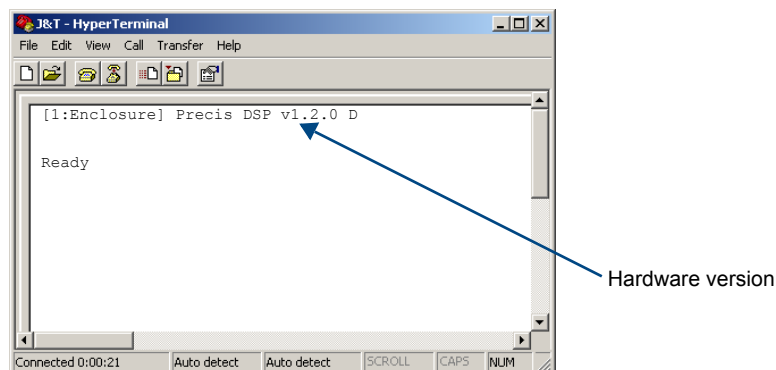

FIG. 8 Power-up splash screen in HyperTerminal
A short splash screen appears followed by “Ready” (see FIG. 8 below).
When power is applied to the enclosure, HyperTerminal displays a short splash screen followed by “Ready”. An example of a short splash screen is illustrated in FIG. 8 (your system’s splash screen may differ slightly).
- At system boot, the ~scr v0 i1 ! setting is displayed (see FIG. 8 on page 30).